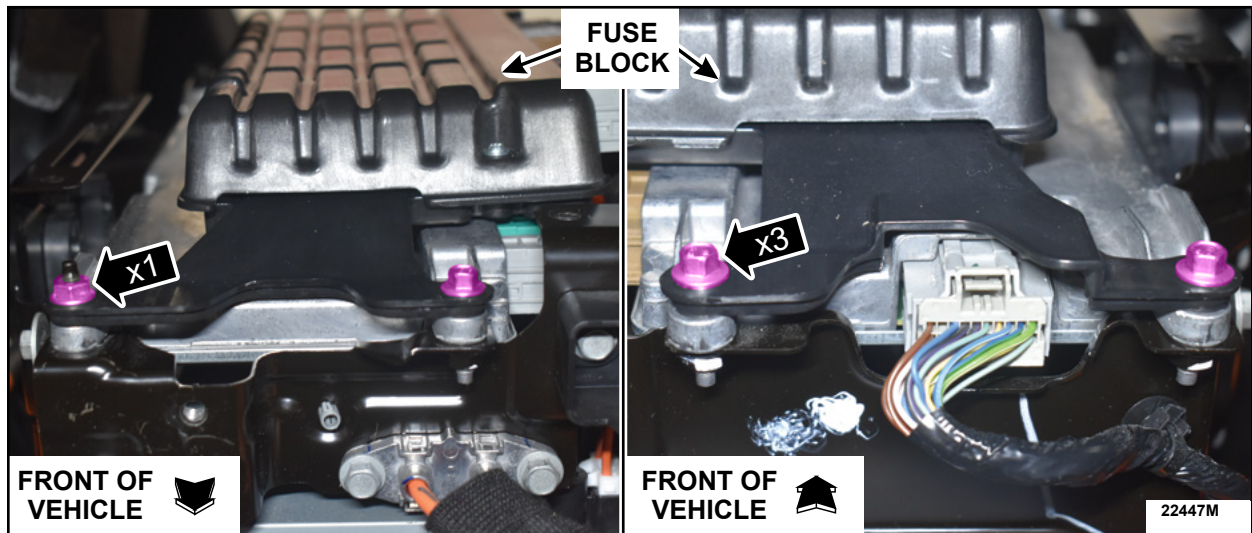

FIGURE 13
15. Install the *new* nut (Item D) and the long bolts (Item F). See Figure 13.